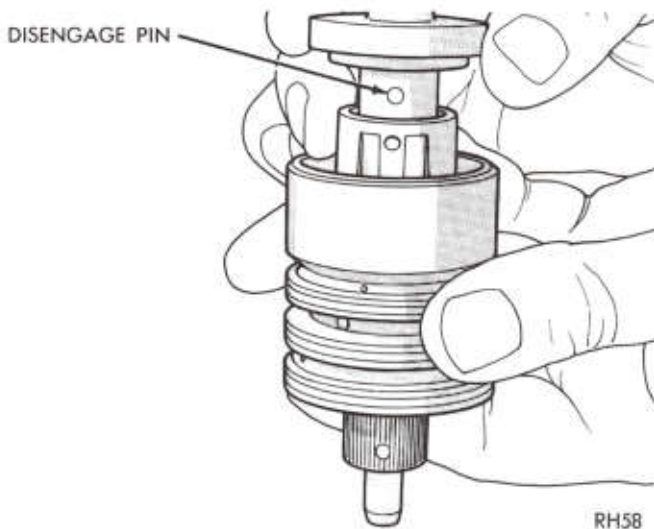
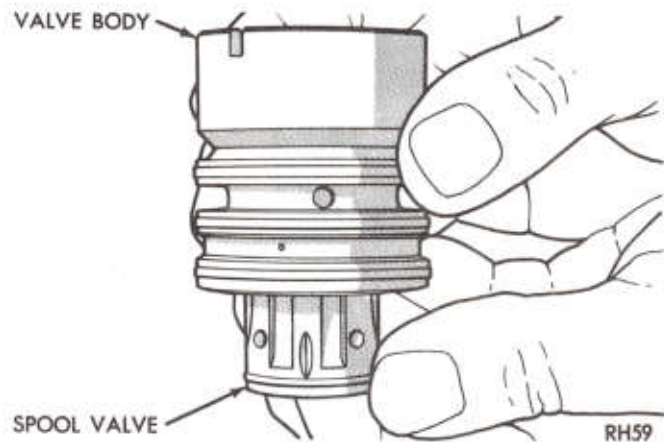

Fig. 13—Remove Stub Shaft from Spool Valve
Fig. 14—Remove Spool Valve
(1) Remove and discard cap to wormshaft O-ring.
(2) Remove stub shaft assembly from valve body. Holding valve assembly with stub shaft down, lightly tap stub shaft against bench until cap is free from valve body by approximately 1/4 inch. (Fig. 13).
(3) Remove shaft assembly from spool by disengaging the shaft pin (Fig. 13). Remove spool from valve body by rotating it while removing. During removal, if binding occurs, realign the spool valve, then remove (Fig. 14). Remove and discard O-ring.